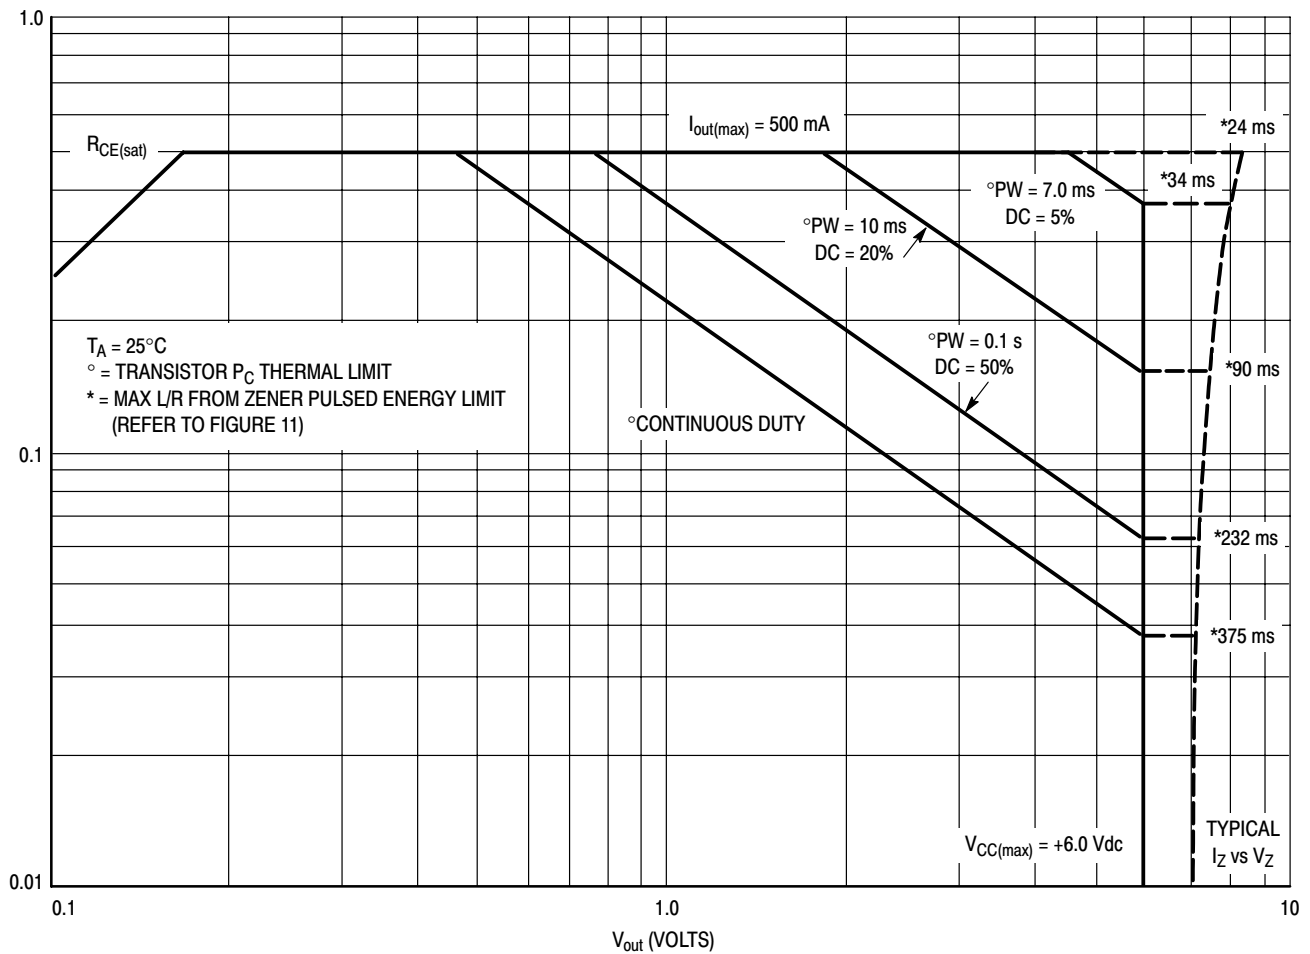
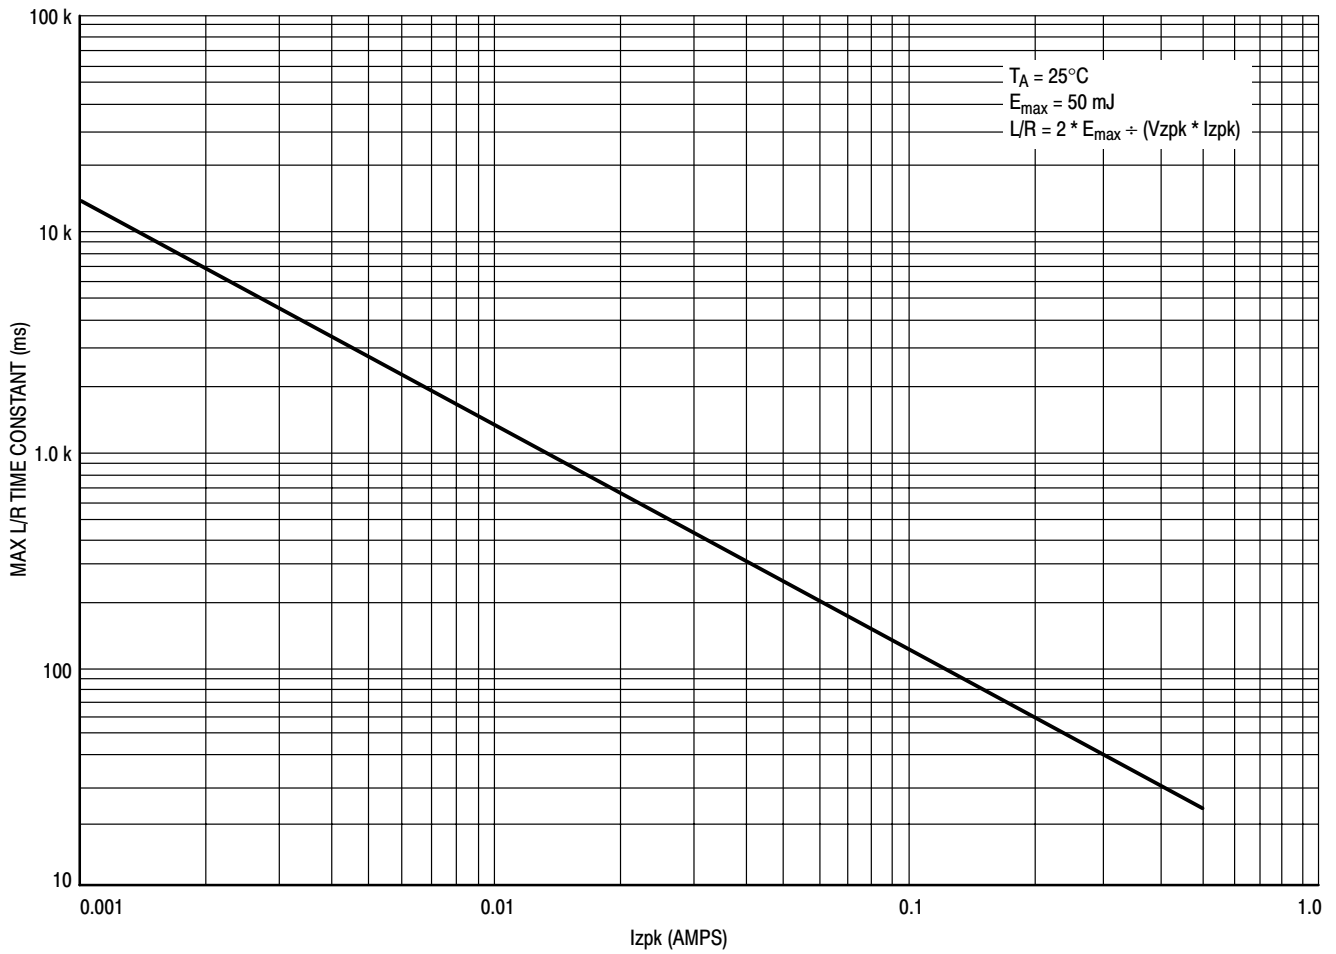

Figure 10. Safe Operating Area
Figure 11. Zener Repetitive Pulse Energy Limit on L/R Time Constant
Figure 10 is the Safe Operating Area (SOA) for the MDC3105LT1. Device instantaneous operation should never be pushed beyond these limits. It shows the SOA for the Transistor "ON" condition as well as the SOA for the zener during the turn-off transient. The max current is limited by the I_{zpk} capability of the zener as well as the transistor in addition to the max input current through the resistor. It should not be exceeded at any temperature. The BJT power dissipation limits are shown for various pulse widths and duty cycles at an ambient temperature of $25^{\circ}C$. The voltage limit is the max V_{CC} that can be applied to the device. When the input to the device is switched off, the BJT "ON" current is instantaneously dumped into the zener diode where it begins its exponential decay. The zener clamp voltage is a function of that BJT current level as can be seen by the bowing of the V_Z versus I_Z curve at the higher currents. In addition to the zener's current limit impacting this device's 500 mA max rating, the clamping diode also has a peak energy limit as well. This energy limit was measured using a rectangular pulse and then translated to an exponential equivalent using the 2:1 relationship between the L/R time constant of an exponential pulse and the pulse width of a rectangular pulse having equal energy content. These L/R time constant limits in ms appear along the V_Z versus I_Z curve for the various values of I_Z at which the Pd lines intersect the V_{CC} limit. The L/R time constant for a given load should not exceed these limits at their respective currents. Precise L/R limits on zener energy at intermediate current levels can be obtained from Figure 11.
3. Use Figures 10 & 11 with the SOA notes above to insure that instantaneous operation does not push the device beyond the limits of the SOA plot.